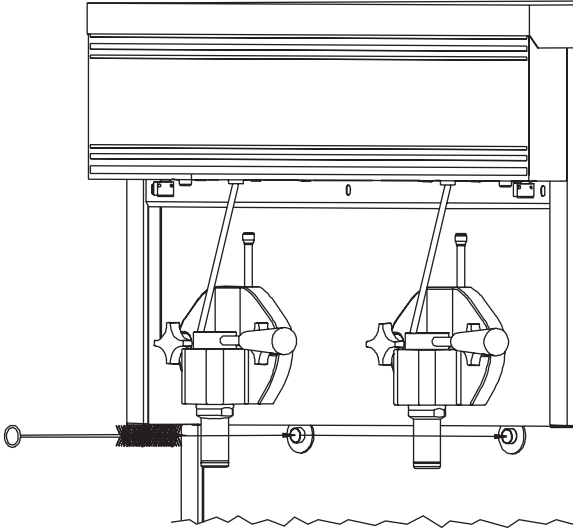

Figure 8-9 Clean Drain Tube
- c. the inside of the drain tube as shown in figure 8-9